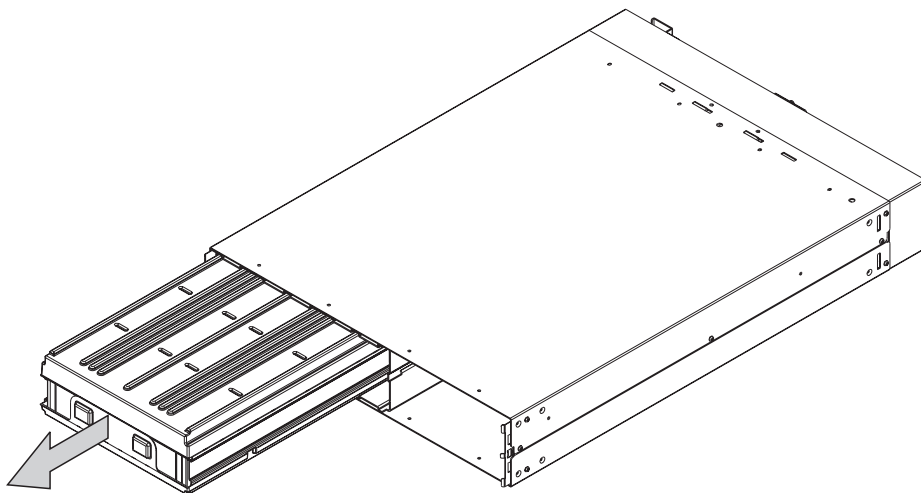

Figure 274. Removing the 2145 UPS battery
4. Remove the battery plate to access to the battery, as shown in Figure 274.